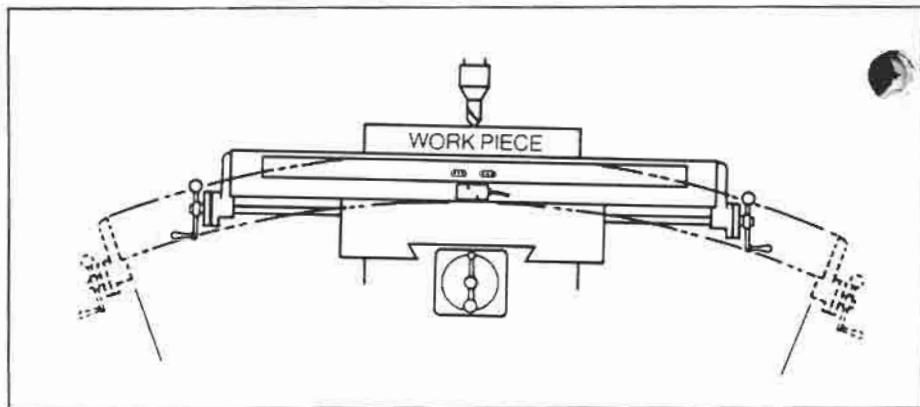

Figure 4-1. Exaggerated Curve of Table Travel on a Milling Machine with an Overhanging Table.
1. Gravity causes deflections in the machine tool structure (see Figure 4-1), particularly when a heavy workpiece is placed on a machine with overhanging table or ways.